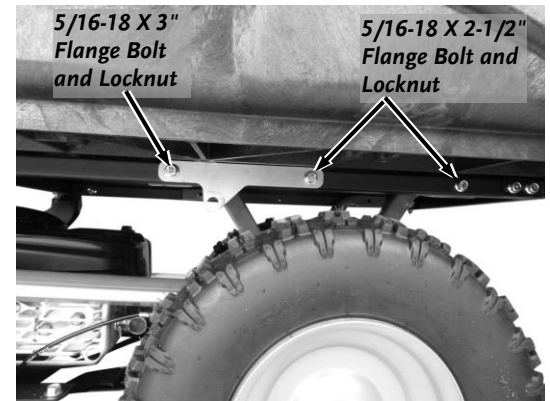

Figure 14
3. Secure the rear of the Actuator Bracket to the Frame and Dump Arm with a 5/16-18 X 3" Flange Bolt and Locknut using a 1/2" Wrench and 1/2" Socket with Ratchet and Extension (**Figure 14**).
5. Secure the front/right (**Figure 14**) and both left side locations (**Figure 19**) of the Bed Frame to the Bed Supports with three 5/16-18 X 2-1/2" Flange Bolts and Locknuts using a 1/2" Wrench and 1/2" Socket with Ratchet and Extension.